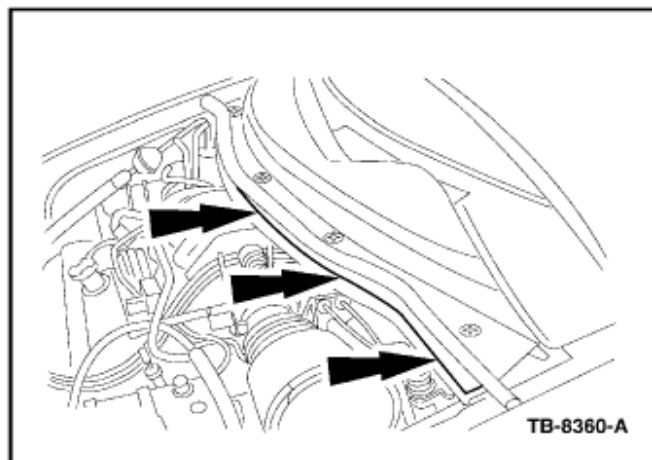

Figure 15
20. Add Clear Silicone Rubber to the front seam between the upper and lower cowl in the area above the transaxle. (Figure 15)